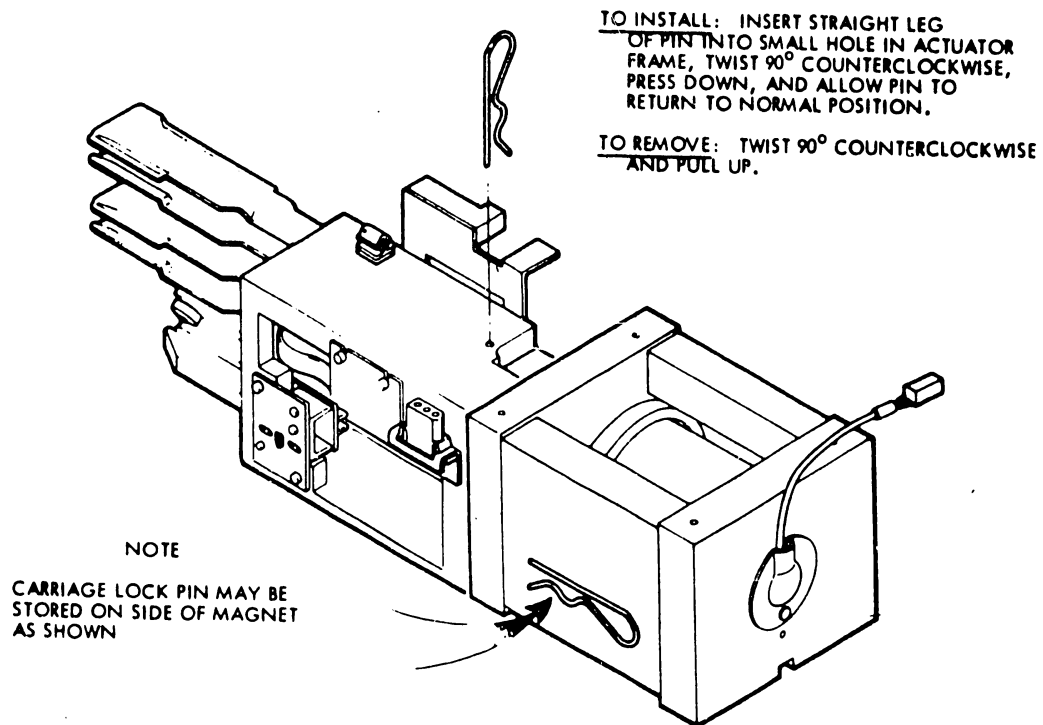

FIGURE 4-47 CARRIAGE PIN REMOVAL
- A. Remove the carriage lock pin. See Figure 4-47.